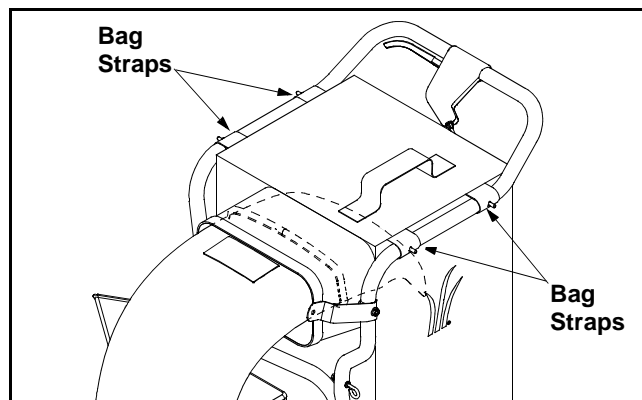

Figure 4
- Place the four straps on the top of the bag **over** upper handle, hooking them on the studs to secure in place. Squeeze the clamp on the drawstring and pull the drawstring tight. Release the clamp. See Figure 4.